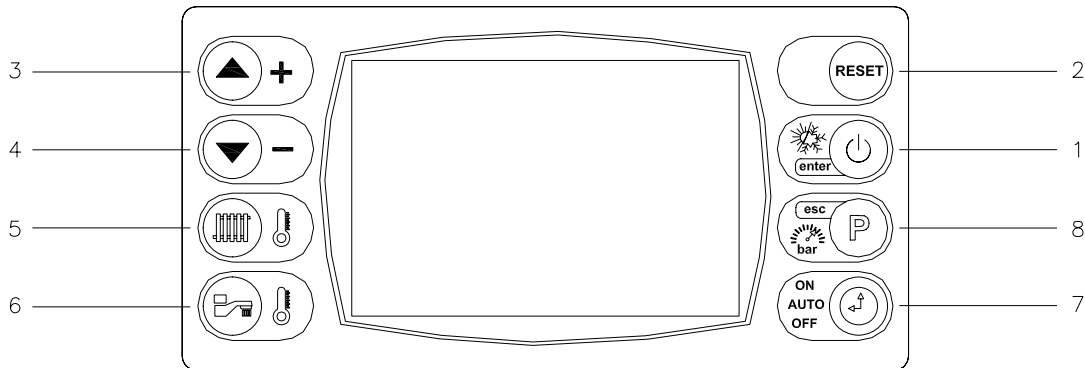

Fig. 1
**In the event of an error, the appliance will show a sequence code displayed on the digital display of the control panel (fig. 1). By pressing the "RESET" button it is possible to relight the boiler (see page 51 for list of error codes).**
Your boiler is equipped with a large LCD display that indicates the appliance operating status (fig. 1).
It is possible to show the boiler value. Press P button to show the boiler value. Use the arrow up and the arrow down buttons, (item 3 and 4 fig. 1) to show the following info: